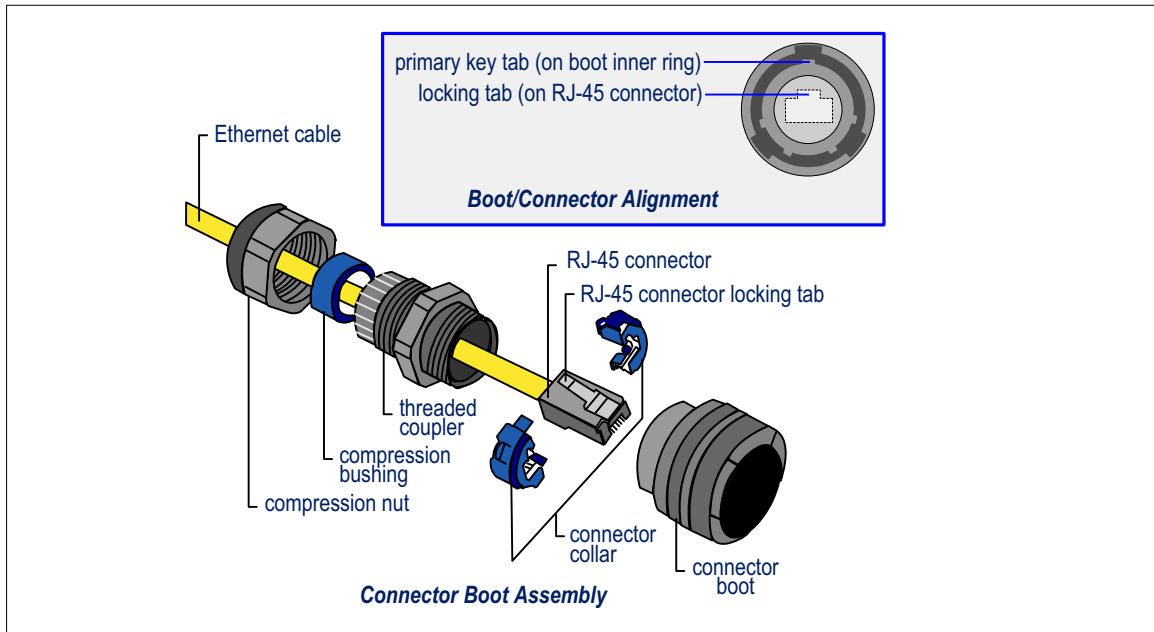

Figure 2.3. Installing the RJ-45 Connector Boot Assembly
- 1 Install the RJ-45 connector boot assembly on the end of the cable that you will be plugging into the Fortress Mesh Point's WAN port, as shown in Figure 2.3: